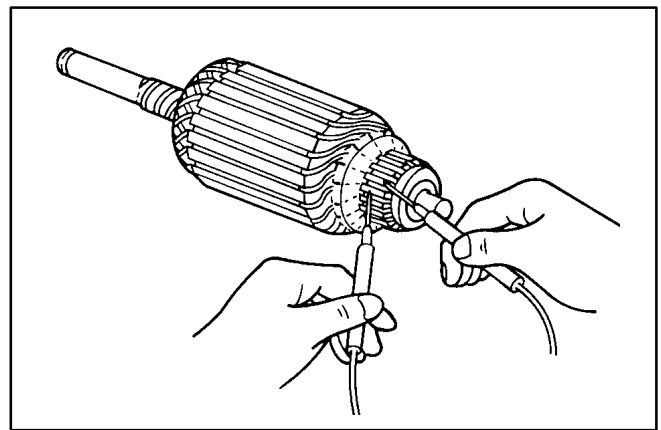

FIGURE 28. CHECKING WINDING INTEGRITY
**Winding Integrity:** See Figure 28. Use an ohmmeter to check for electrical continuity between pairs of commutator segments all the way around the commutator. Make sure each segment is checked. Replace the armature if a winding is open (high resistance) at any segment.